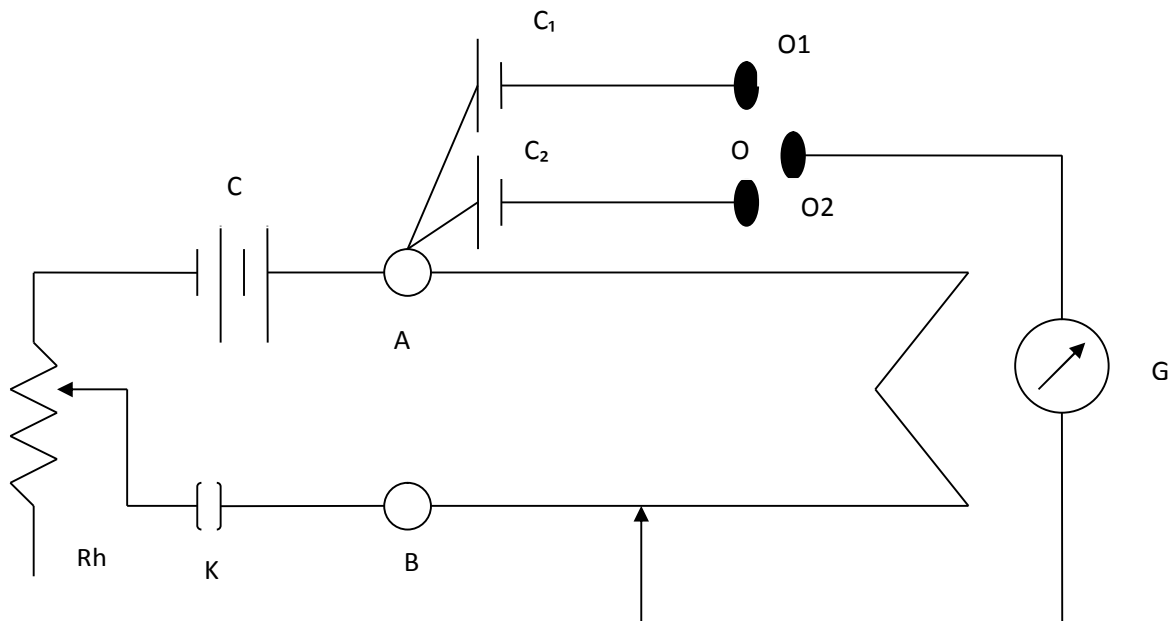

Fig. 1: Circuit diagram to determine the emf of an unknown cell
1. Connect the apparatus as is shown in Fig 1. Connect the positive terminal of the power supply to the end A of the potentiometer wire and the negative through the rheostat.